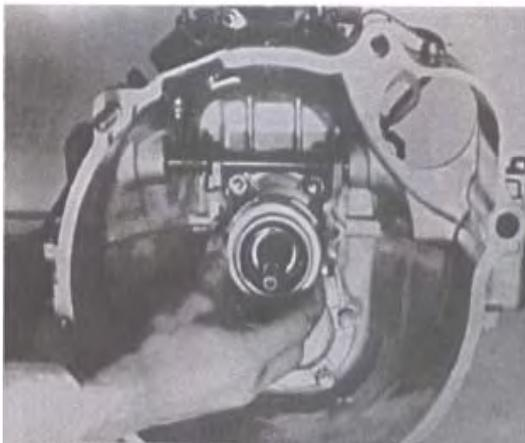

Fig 10-13
- (1) Remove clutch release bearing from transmission input shaft. (FIG.10-13)